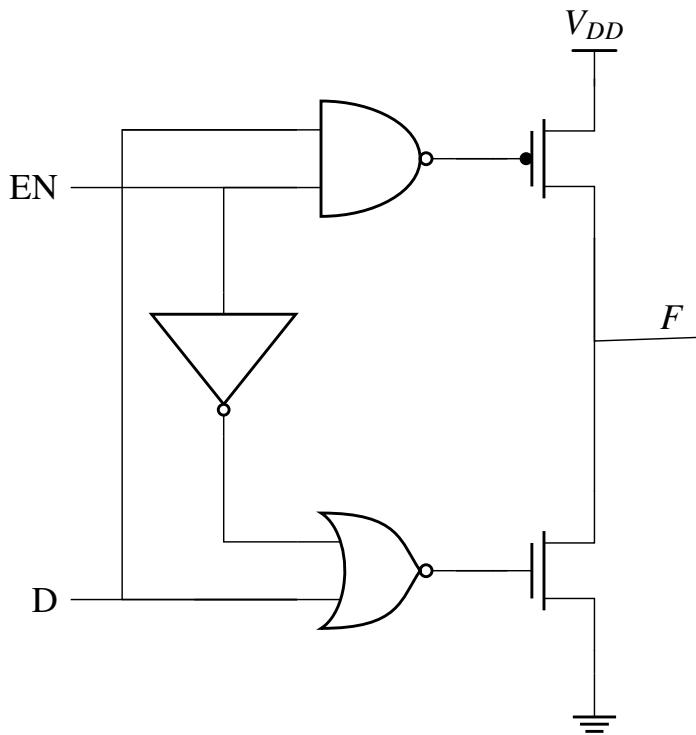

Fig. 3.22: Circuit Diagram
38. In the circuit shown in Fig. 3.22, what are the values of F for $EN = 0$ and $EN = 1$, respectively? (GATE-EC2019,14)